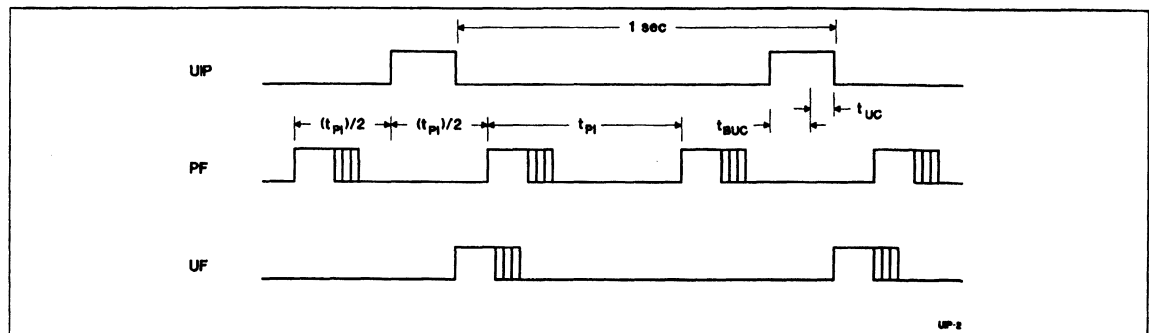

Figure 3. Update-Ended/Periodic Interrupt Relationship
- Enable the update interrupt event to generate interrupt requests at the end of the update cycle. The interrupt handler has a maximum of 999ms to access the clock bytes before the next update cycle begins (see Figure 3).
- Poll the update-in-progress bit (UIP) in register A. If UIP = 0, the polling routine has a minimum of  $t_{\text{BUC}}$  time to access the clock bytes (see Figure 3).
- Use the periodic interrupt event to generate interrupt requests every  $t_{\text{PI}}$  time, such that  $\text{UIP} = 1$  always occurs between the periodic interrupts. The interrupt handler has a minimum of  $t_{\text{PI}}/2 + t_{\text{BUC}}$  time to access the clock bytes (see Figure 3).